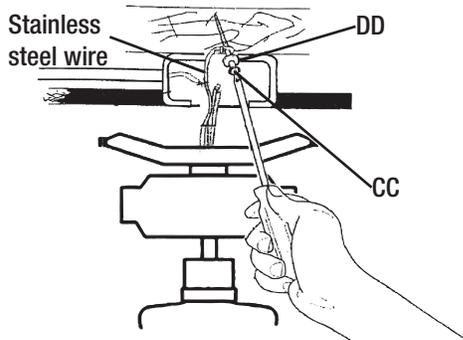

Figure 9
- An additional safety support is provided to prevent the fan from falling. Secure the stainless steel wire to the ceiling joist with screw and washer (CC & DD) provided, as illustrated in Figure 9.